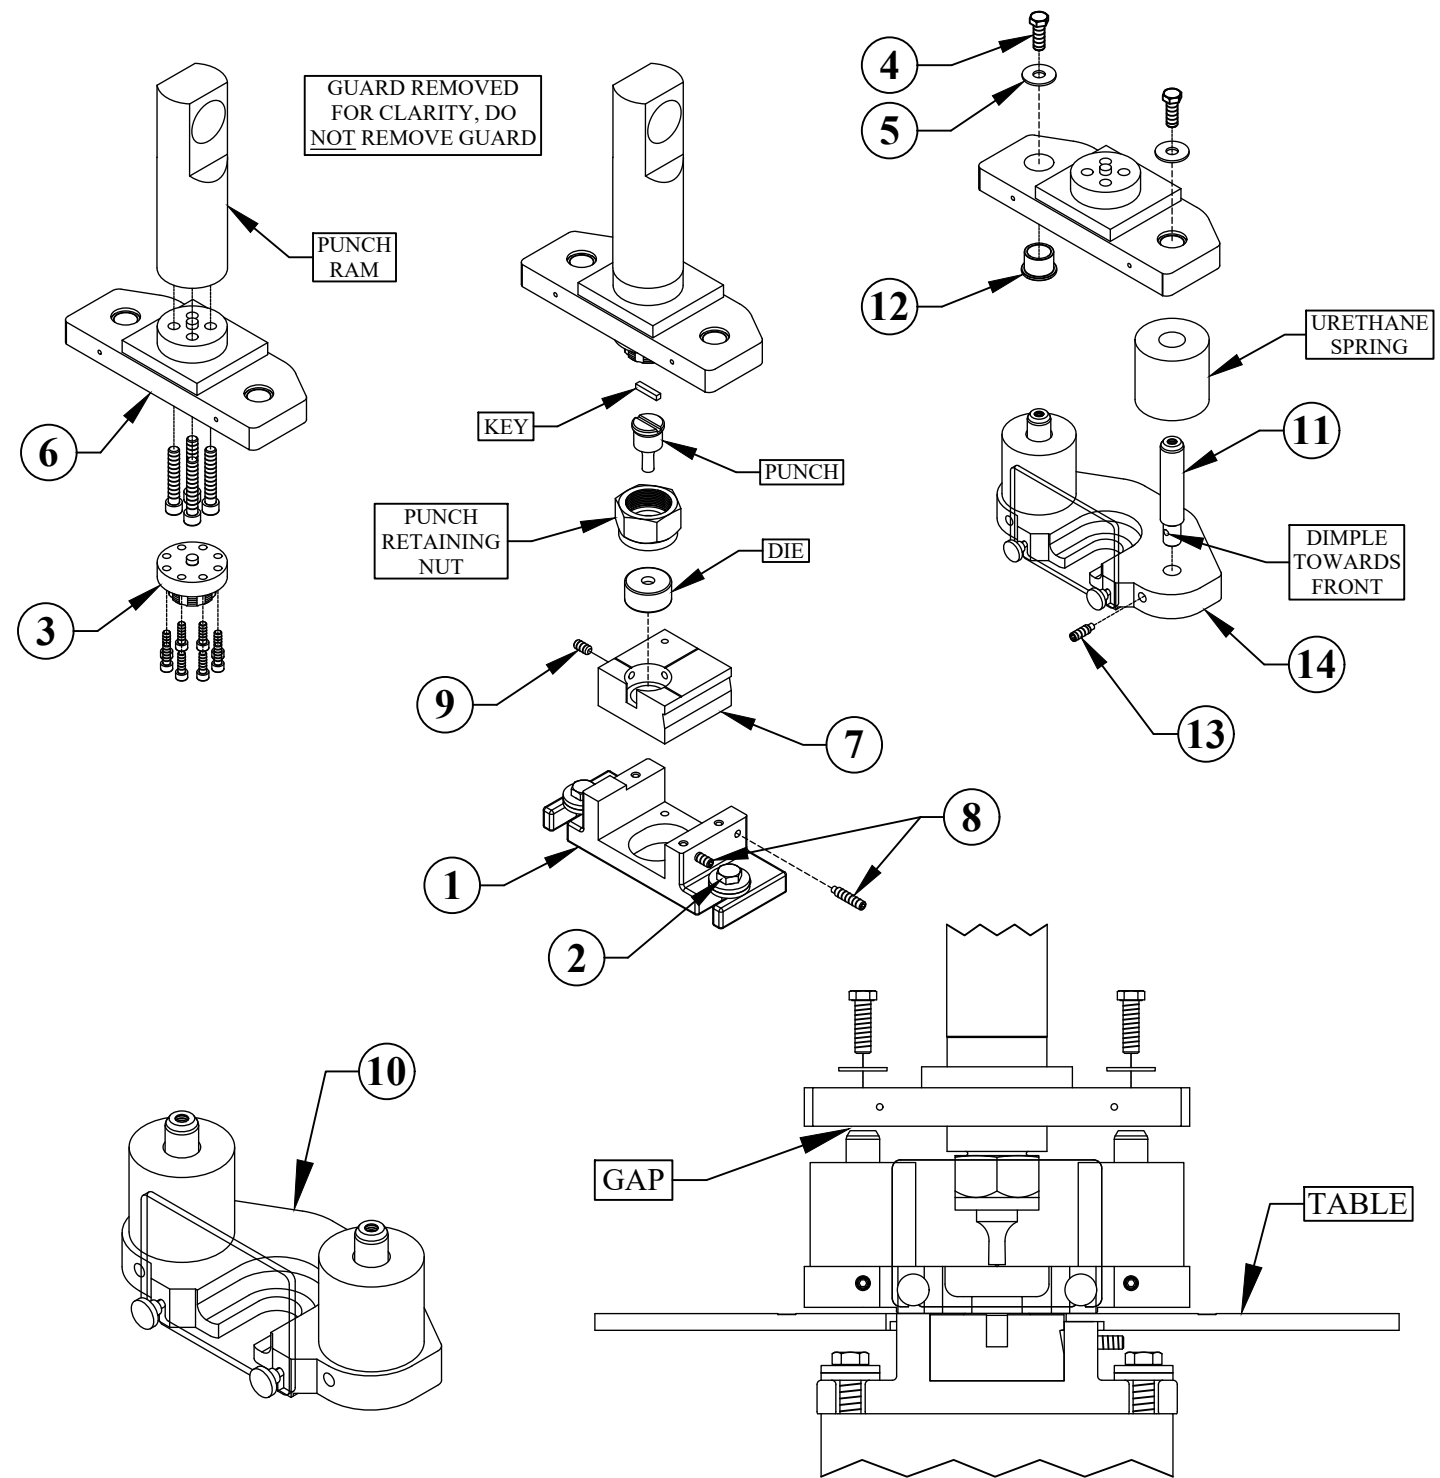

FIGURE 32
(See "Gap" IN FIGURE 32).
SEE FIGURE 32
If the unit is constantly over stroked or over a period of time, it may be necessary to renew the urethane springs. REFER TO FIGURE 32. The springs should be checked periodically. (A sure sign of over stroking is cracking or splitting of the springs.)
4. If the posts have become loose in the stripper plate, remove the appropriate set screws, (or if the set screws have already been removed), apply a thread locking solution such as Blue Loctite® and reinsert the set screws, making sure they are inserted into the dimples on the bottom of the posts (SEE "DIMPLE TOWARDS FRONT" IN FIGURE 32).